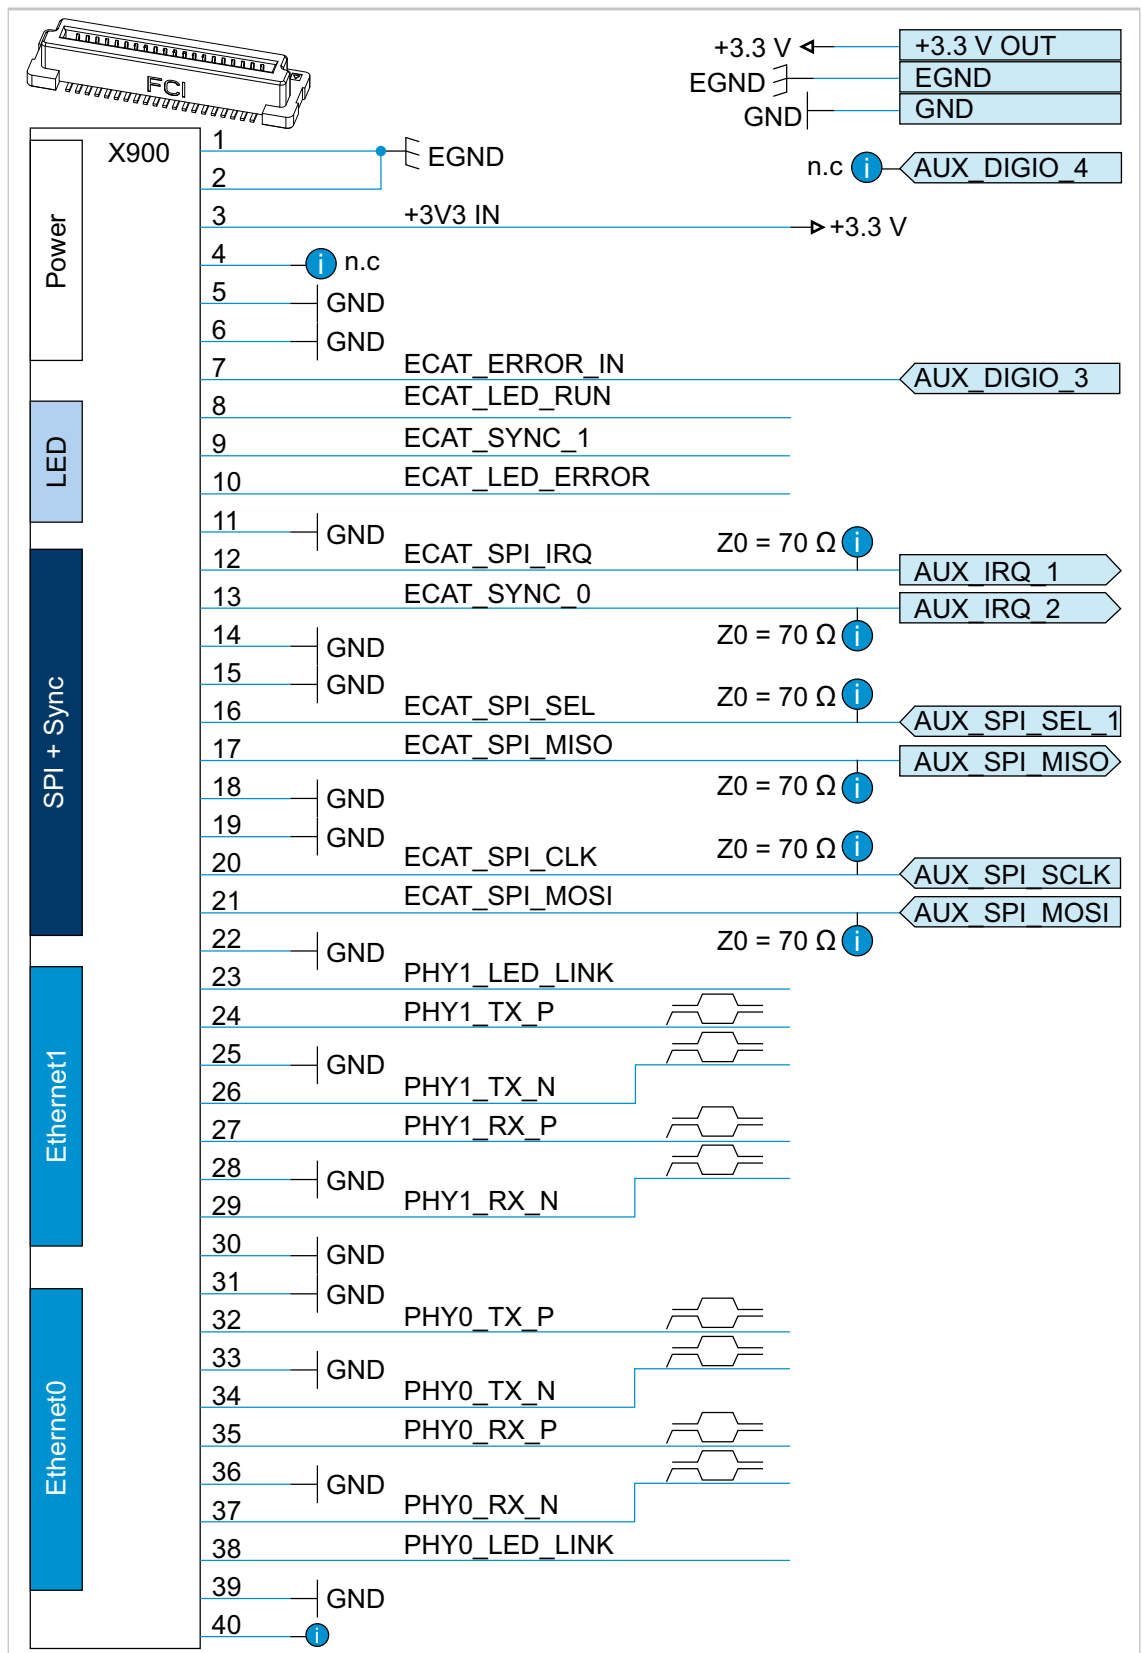

Fig. 10: Connections of the X900 connector of the FAULHABER evaluation board
- ▶ On the customer base board, design the line routings for the steep-edged SPI signals with an impedance of approx. 68...70 Ω . In the example wiring diagram (Fig. 10), this is marked with $Z_0 = 70 \Omega$.
- ▶ Design the Ethernet lines on the customer base board with a differential impedance of 100 Ω and a line impedance of 50 Ω . In the example wiring diagram (Fig. 10), this is marked with the symbol .